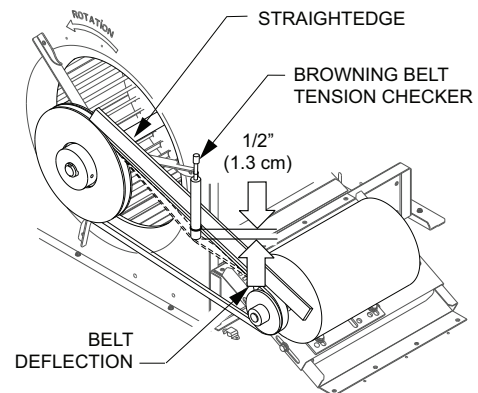

Fig. 6 — Checking Blower Motor Belt Tension
Check the belt condition and tension quarterly. Inspect the belt for signs of cracking, fraying or glazing along the inside surfaces. Check belt tension by using a spring-force tool, such as Browning's "Belt Tension Checker" (P/N 1302546 or equivalent tool); tension should be 6 lb at a $\frac{5}{8}$ -in. (1.6 cm) deflection when measured at the center line of the belt span. This point is at the center of the belt when measuring the distance between the motor shaft and the blower shaft. See Fig. 6.
- Check the tension after a few hours of runtime and re-adjust as required. See Fig. 6.
- Loosen the belt by loosening the motor adjustment bolts as described in the Belt Adjustment section. (See Fig. 6.)
- Slide the fan pulley along the fan shaft. Make angular alignment by loosening the motor from its mounting. See Fig. 6.
- Recheck the belt tension. See Fig. 6.